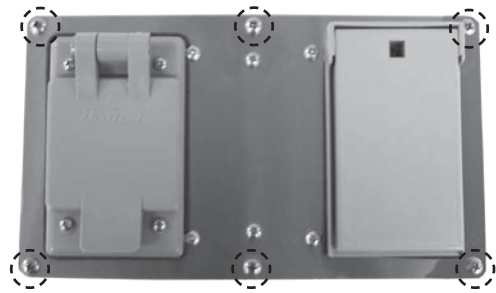

Fig. 37-1 Remove 6 large screws
2. Using a phillips screwdriver, remove the 6 large screws found on the cover of the power supply box (see Fig. 37-1).